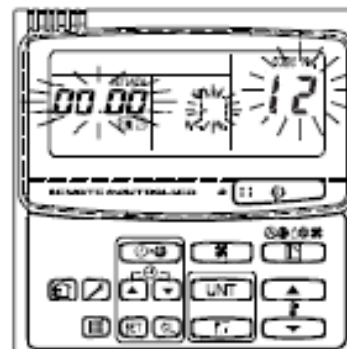

Fig. 13
- 3) Once in this mode, the UNIT No. CODE No. No. of SET DATA and indications will flash on the display as shown in Fig. 13